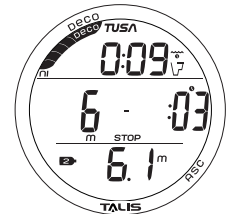

Fig. 64 - DECO STOP MAIN
**Deco Stop Main**, information includes (Fig. 64):